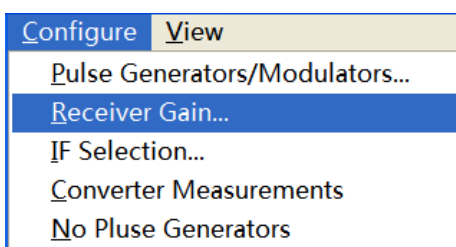
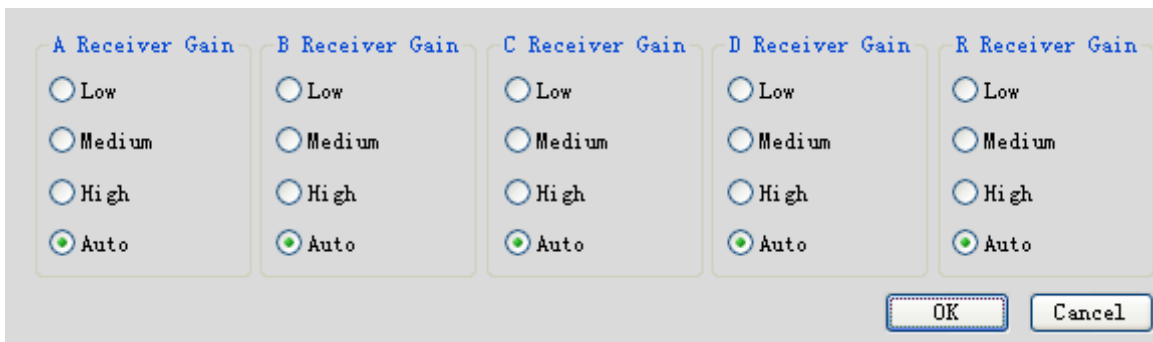

Fig. 4.8 Receiver Gain Control Menu
Fig. 4.9 [Receiver gain configuration] Dialog Box
7) **Receiver gain:** click [Configuration] > [Receiver Gain] (Fig. 4.8). The dialog box shown in Fig. 4.9 will appear.